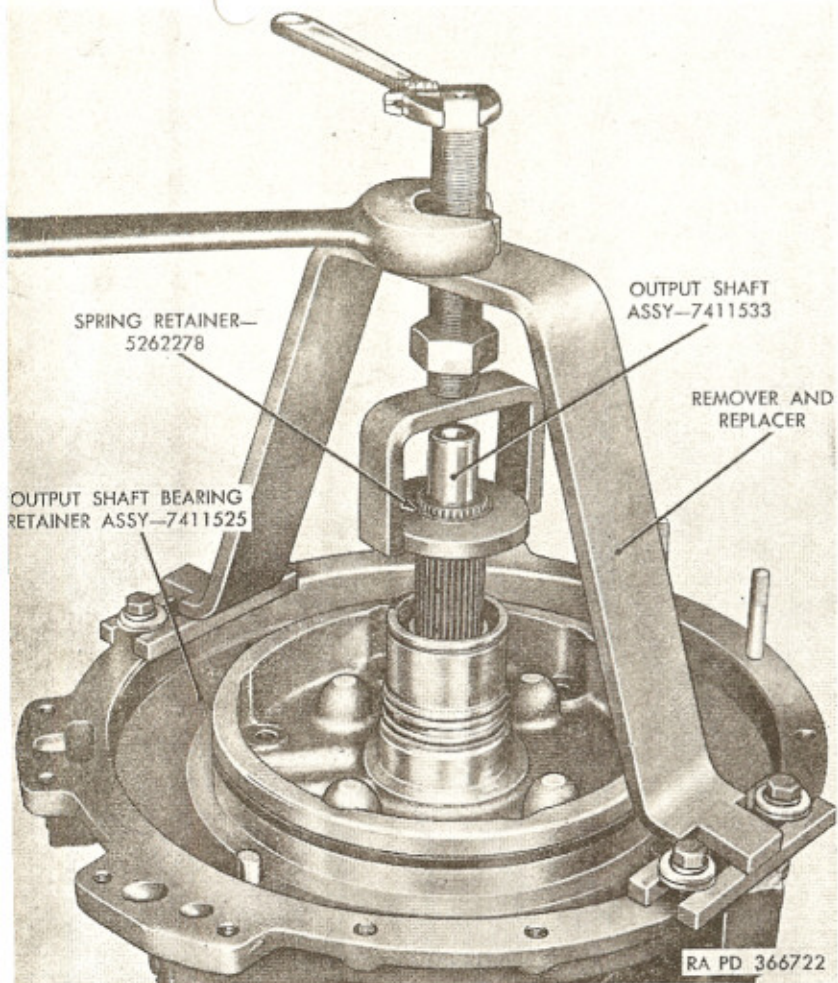

Figure 196. Installing assembled output shaft bearing retainer with remover and replacer—C7950563 (303M).
e. Position output shaft bearing retainer remover and replacer—C7950563 with center screw section of tool over transmission output shaft assembly (fig. 196) so that the main body of the tool contacts the bearing retainer. Align the four slots of the tool with the four tapped holes in the bearing retainer diagonally opposite the output shaft assembly.